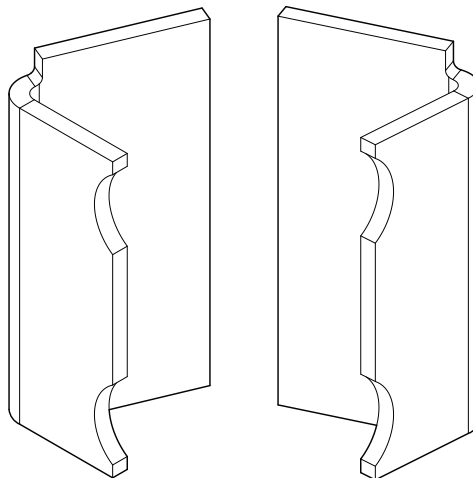

Figure 1. Gussets
1. Make sure the gussets are accounted for before beginning this installation procedure. Refer to Table 1 and Figure 1.